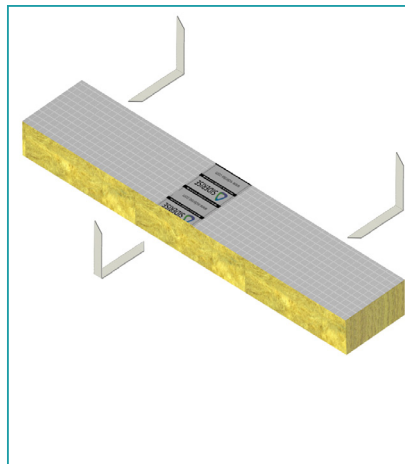

Fig 2. 3No. fixing brackets are required per 1200mm strips.
- Fixing brackets are supplied in a flat form for suitable folding on site. Impale the galvanised steel B355 fixing brackets into the edge of the material at mid thickness. 3No. brackets are required per 1200mm strip (Fig.2). The brackets are to be positioned with 1No. at 150mm from each end and 1No. centrally on the opposite face.